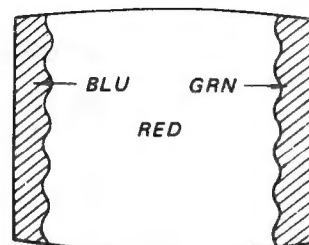

Fig. 1-3
6. Adjust purity control to center vertical red band as shown in Fig. 1-3.